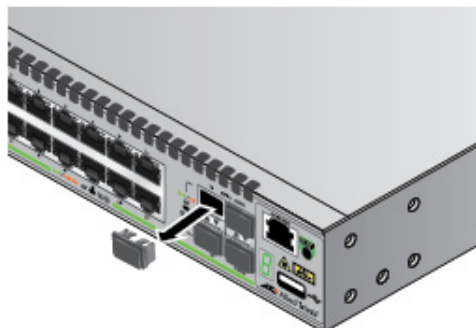

Figure 21. Removing the Dust Plug from an SFP/SFP+ Slot
1. Remove the dust plug from a transceiver slot on the switch. See Figure 21.